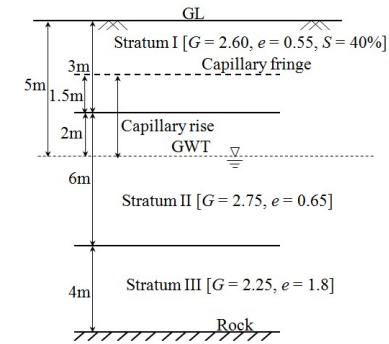

Figure 3
- (b) At a particular site there are three layers of soil (Figure 3). The ground water table (GWT) is at a depth of 5 m below ground level (GL). The average degree of saturation of the sand above the capillary fringe is 40%. The soil is saturated due to capillary action upto a height of 3.5 m above the GWT level. Considering the effect of porosity, calculate the effective stresses at 3 m, 6 m, 9 m and 11 m below GL.